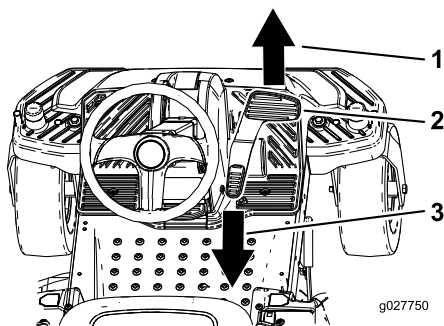

Figure 27
3. Place your foot onto the traction-control pedal and slowly press the top of the pedal to go forward, or press on the bottom of the pedal to move backward (Figure 27).